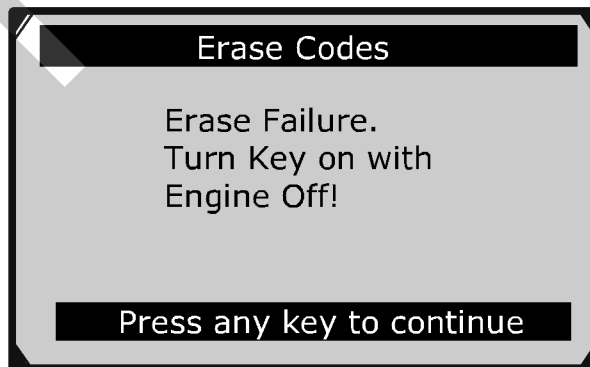

Figure 6.8
- If the codes are not cleared, then an “Erase Failure. Turn Key on with Engine off!” message appears. (Figure 6.8)